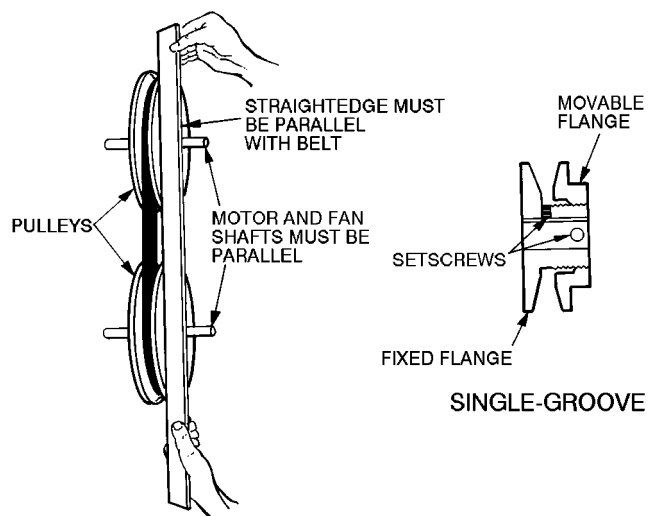

Fig. 26 — Indoor-Fan Pulley Adjustment
3. Loosen movable pulley flange setscrew (see Fig. 26).